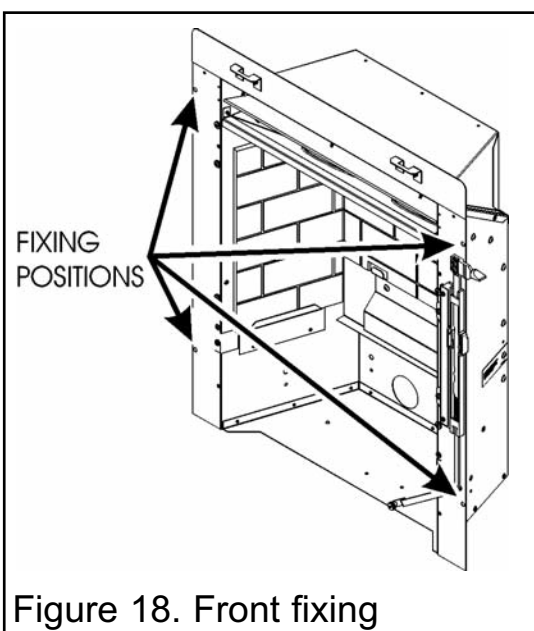

Figure 18. Front fixing
3. Mark the fireplace front surround through the four fixing holes in the side flanges of the convector box (See figure 18).